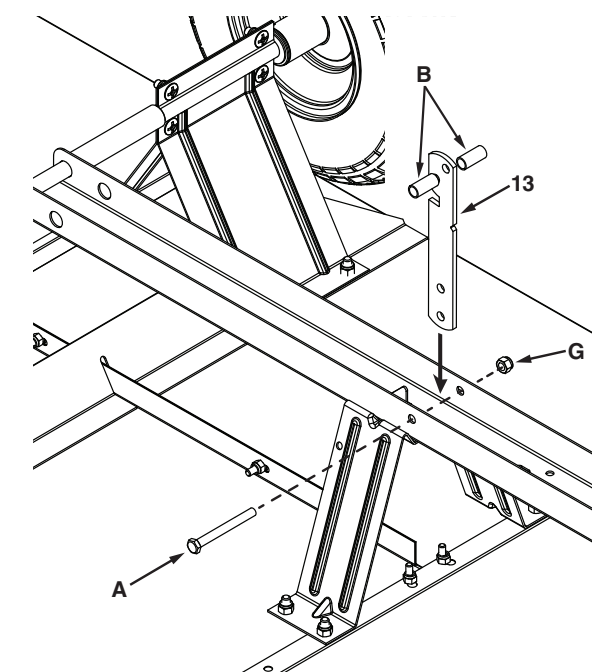

Figure 18
**STEP 18 (SEE FIGURE 18):** Install the latch lock lever (13) by inserting a 5/16" x 3" hex bolt (A) through one side of the draw bar tongue (14), a spacer (B), the latch lock lever (13) a spacer (B), the other side of the draw bar tongue (14), and a 5/16" nylock nut (G) as shown in figure 18.